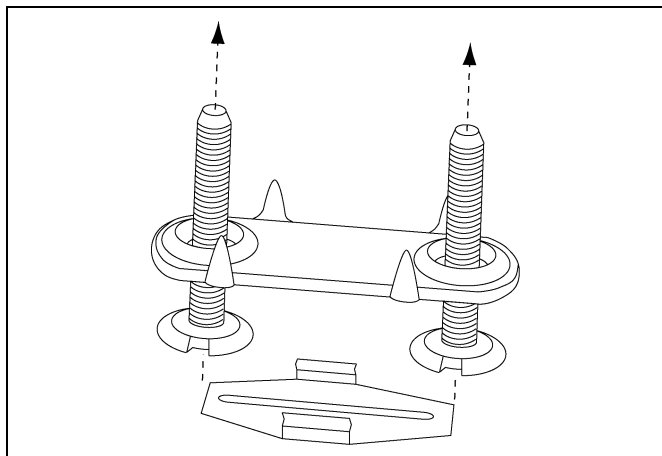

Figure 6I
3. To assemble bottom plate insert two (2) bolts and attach clip. *(See Figure 6I.)*